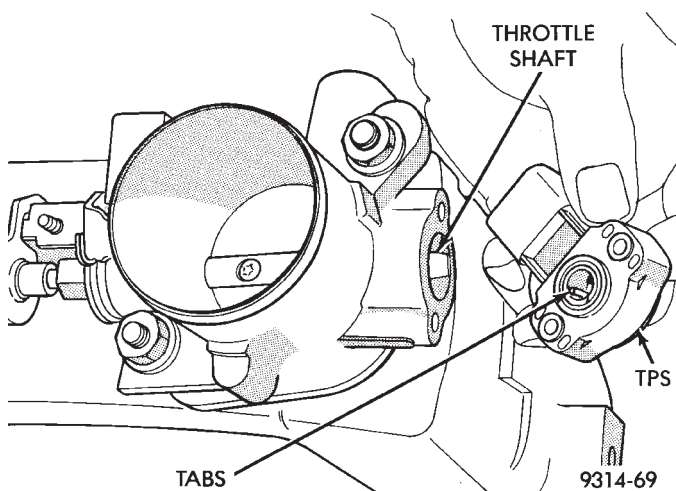
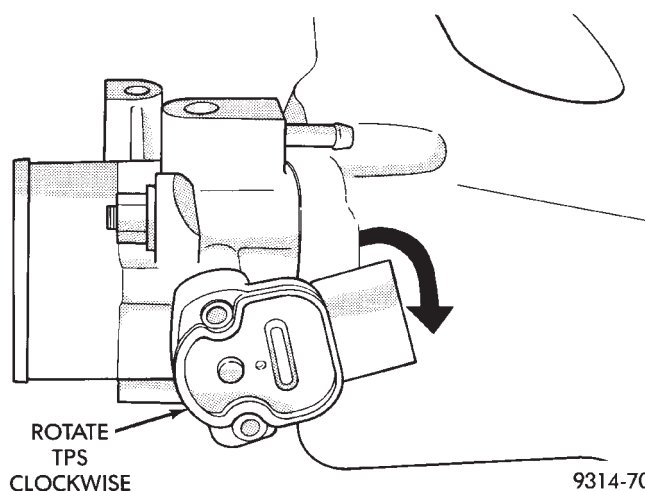

Fig. 64 Throttle Position Sensor Installation—3.5L Engine
Fig. 65 Rotate TPS Clockwise For Alignment—3.5L Engine
(1) The throttle shaft end of the throttle body slides into a socket in the TPS (Fig. 64). The socket has two tabs inside it. The throttle shaft rests against the tabs. When indexed correctly, the TPS can rotate clockwise a few degrees to line up the mounting screw holes with the screw holes in the throttle body (Fig. 65). The TPS has slight tension when rotated into position. If it is dif-